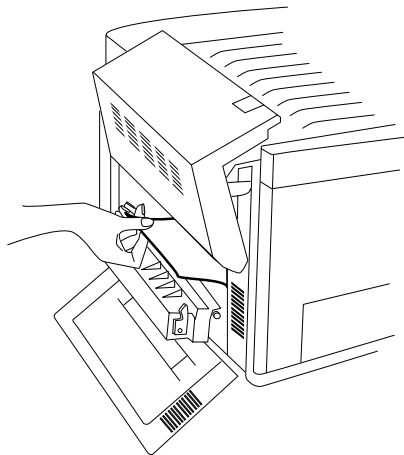

Fig. 9.8 Remove Media from the Transfer Unit Area
- b. Remove the jammed media by pulling it straight out from above the transfer unit (fig. 9.8).